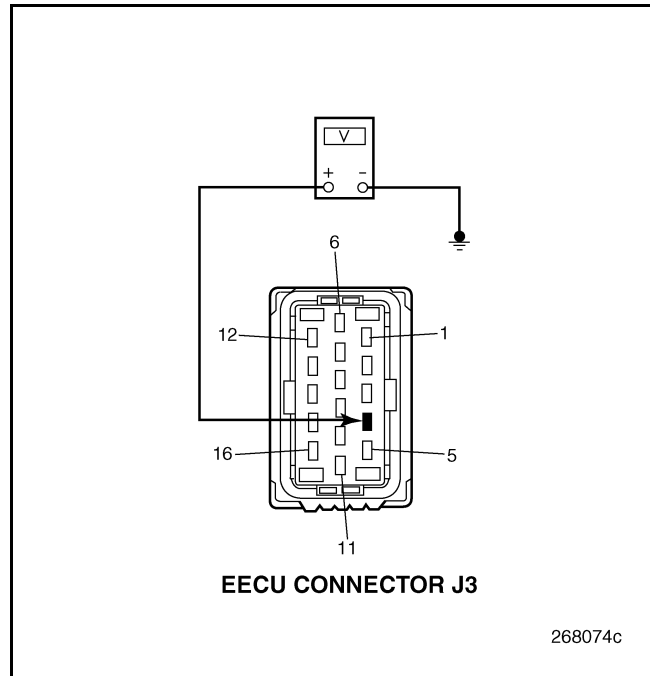

Figure 780
4. Measure the voltage between EECU connector J3 pin 4 and a good ground (see Figure 780).